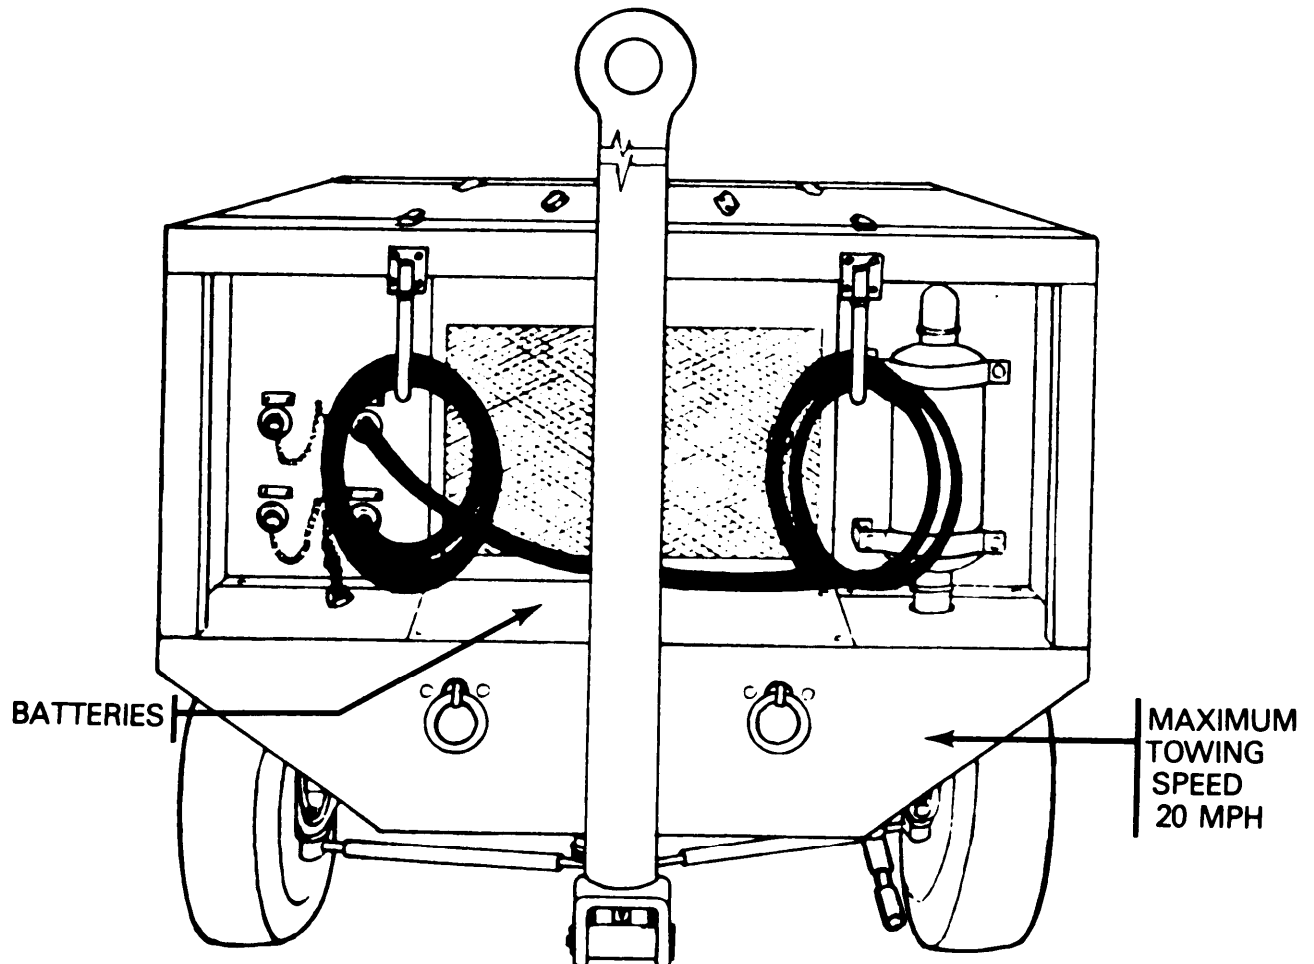

FIGURE 1-1. HYDRAULIC TEST STAND, D5-D, FRONT VIEW
- a. This manual is for use by Aviation Unit and Intermediate Maintenance personnel to operate and maintain the Aircraft Hydraulic Systems Test Stand Type D5-D, Figures 1-1, 1-2, 1-3.